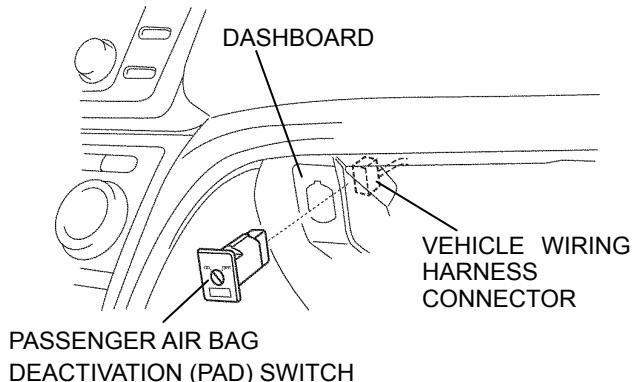

FIGURE 12
1. Install the passenger air bag deactivation (PAD) switch to the dashboard. (refer to Figure 12)
2. Connect the passenger air bag deactivation (PAD) switch to the vehicle wiring harness connector. (refer to Figure 12)